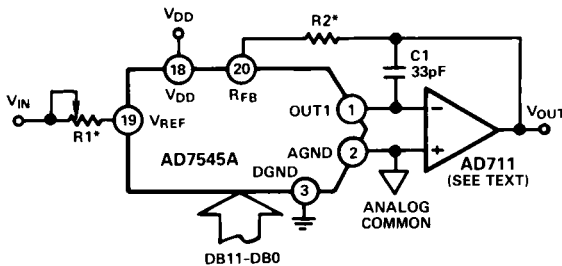
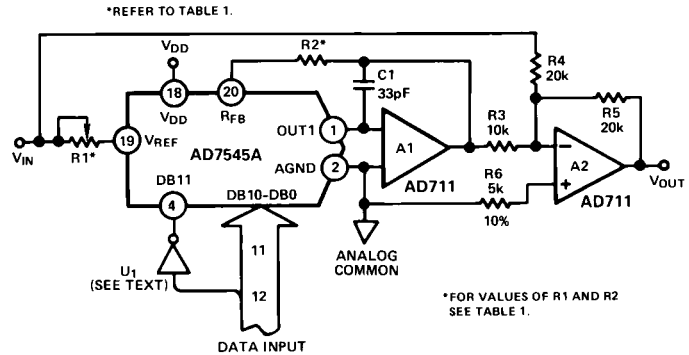
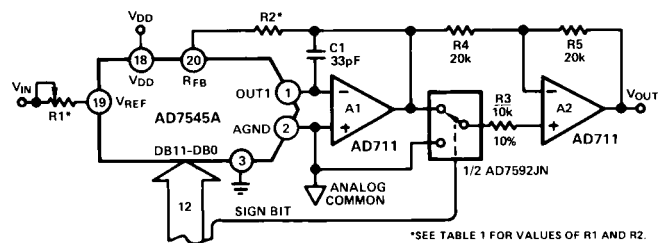
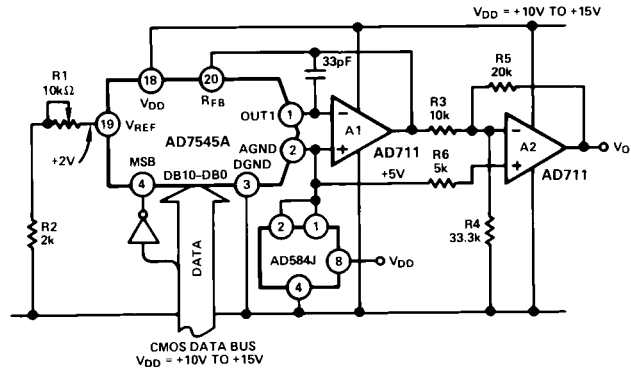

Figure 4. Unipolar Binary Operation
Figure 5. Bipolar Operation (2's Complement Code)
Figure 6. 12-Bit Plus Sign Magnitude D/A Converter
Figure 10. Single Supply "Bipolar" 2's Complement D/A Converter
Figures 4 and 5 show simple unipolar and bipolar circuits using the AD7545A. Resistor R1 is used to trim for full scale. The L, C, U grades have a guaranteed maximum gain error of  $\pm 1LSB$  at  $+25^\circ C$ , and in many applications it should be possible to dispense with gain trim resistors altogether. Capacitor C1 provides phase compensation and helps prevent overshoot and ringing when using high-speed op amps. Note that all the circuits of Figures 4, 5 and 6 have constant input impedance at the  $V_{REF}$  terminal.
The circuit of Figure 4 can either be used as a fixed reference D/A converter so that it provides an analog output voltage in the range 0 to  $-V_{IN}$  (note the inversion introduced by the op amp) or  $V_{IN}$  can be an ac signal in which case the circuit behaves as an attenuator (2-Quadrant Multiplier).  $V_{IN}$  can be any voltage in the range  $-20 \leq V_{IN} \leq +20$  volts (provided the op amp can handle such voltages) since  $V_{REF}$  is permitted to exceed  $V_{DD}$ . Table II shows the code relationship for the circuit of Figure 4.
Table II. Unipolar Binary Code Table for Circuit of Figure 4
Figure 5 and Table III illustrate the recommended circuit and code relationship for bipolar operation. The D/A function itself uses offset binary code, and inverter U1 on the MSB line converts 2's complement input code to offset binary code. If appropriate, inversion of the MSB may be done in software using an exclusive -OR instruction and the inverter omitted. R3, R4 and R5 must be selected to match within 0.01%, and they should be the same type of resistor (preferably wire-wound or metal foil), so that their temperature coefficients match. Mismatch of R3 value to R4 causes both offset and full-scale error. Mismatch of R5 to R4 and R3 causes full-scale error.
Table III. 2's Complement Code Table for Circuit of Figure 5
Figure 6 shows an alternative method of achieving bipolar output. The circuit operates with sign plus magnitude code and has the advantage that it gives 12-bit resolution in each quadrant compared with 11-bit resolution per quadrant for the circuit of Figure 5. The AD7592 is a fully protected CMOS change-over switch with data latches. R4 and R5 should match each other to 0.01% to maintain the accuracy of the D/A converter. Mismatch between R4 and R5 introduces a gain error. Refer to Reference 1 (supplemental application material) for additional information on these circuits.
Table IV. 12-Bit Plus Sign Magnitude Code Table for Circuit of Figure 6
**Output Offset:** CMOS D/A converters in circuits such as Figures 4, 5 and 6 exhibit a code dependent output resistance which in turn can cause a code dependent error voltage at the output of the amplifier. The maximum amplitude of this error, which adds to the D/A converter nonlinearity, depends on  $V_{OS}$ , where  $V_{OS}$  is the amplifier input offset voltage. To maintain specified accuracy with  $V_{REF}$  at 10V, it is recommended that  $V_{OS}$  be no greater than 0.25mV, or  $(25 \times 10^{-6}) (V_{REF})$ , over the temperature range of operation. Suitable op amps are AD517 and AD711. The AD517 is best suited for fixed reference applications with low bandwidth requirements: it has extremely low offset (150 $\mu$ V max for lowest grade) and in most applications will not require an offset trim. The AD711 has a much wider bandwidth and higher slew rate and is recommended for multiplying and other applications requiring fast settling. An offset trim on the AD711 may be necessary in some circuits.
**Temperature Coefficients:** The gain temperature coefficient of the AD7545A has a maximum value of 5ppm/ $^{\circ}$ C and a typical value of 2ppm/ $^{\circ}$ C. This corresponds to worst case gain shifts of 2LSBs and 0.8LSBs respectively over a 100 $^{\circ}$ C temperature range. When trim resistors R1 and R2 (such as in Figure 4) are used to adjust full-scale range, the temperature coefficient of R1 and R2 should also be taken into account. The reader is referred to Analog Devices Application Note "Gain Error and Gain Temperature Coefficient to CMOS Multiplying DACs", Publication Number E630c-5-3/86.
The circuits of Figures 4, 5 and 6 can all be converted to single supply operation by biasing AGND to some voltage between  $V_{DD}$  and DGND. Figure 10 shows the 2's Complement Bipolar circuit of Figure 5 modified to give a range from +2V to +8V about a "pseudo-analog ground" of 5V. This voltage range would allow operation from a single  $V_{DD}$  of +10V to +15V. The AD584 pin-programmable reference fixes AGND at +5V.  $V_{IN}$  is set at +2V by means of the series resistors R1 and R2.